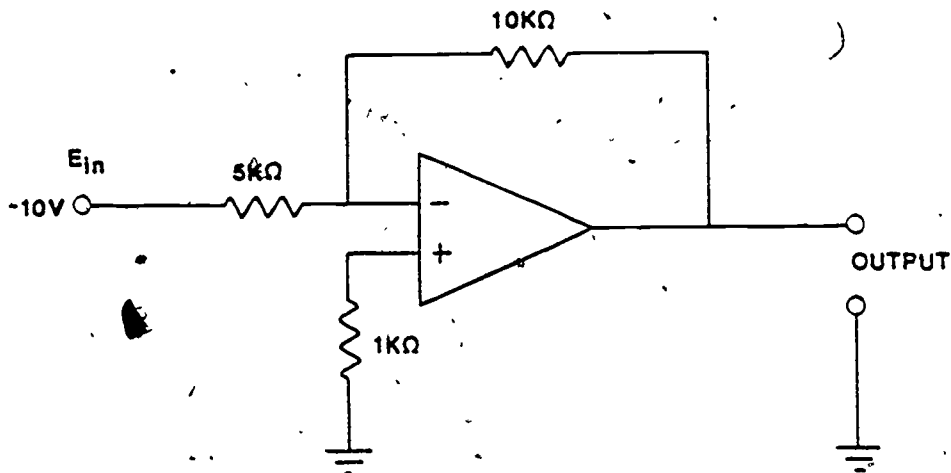

Figure 21. Figure for Questions 4 and 5.
4. Refer to Figure 21. What is the voltage at the inverted input (-terminal)?
5. What kind of amplifier is shown in Figure 21?